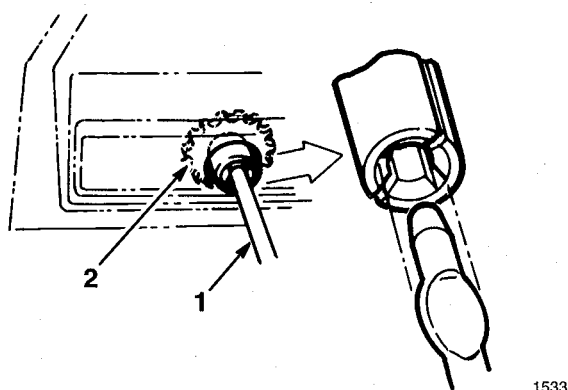

Figure 3
2. Secure deflector to discharge chute with (2) 5/16-18 carriage bolts, metal washers, and locknuts. Make sure the square shoulders on the carriage bolts align with inside square on discharge chute. Position metal washers to the outside of deflector as shown in Figure 3. **DO NOT OVERTIGHTEN BOLTS.**